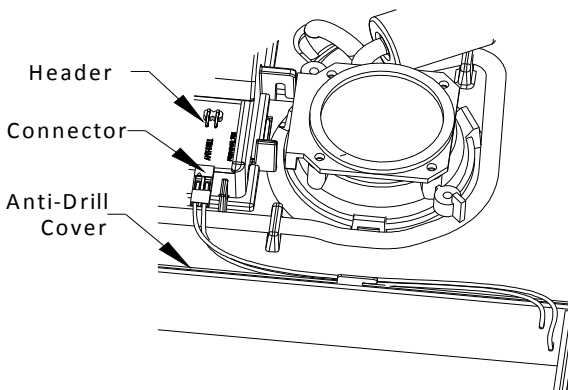

Fig 6: Connecting Anti-Drill Cover
- 15) In RAPIER-G4S model connect anti-drill connection cable to header, Figure 6. Fit anti-drill cover into fixing slots provided ensuring that connection cable and all other cables are fully inside the anti-drill cover. Secure anti-drill cover with screw.
Before disposal of the product, the SAB battery must be removed, see Figure 6, and disposed separately via an appropriate approved battery disposal route in accordance with all national and local regulations. Package used batteries safely for onward transport to your supplier, collection point or disposal facility.